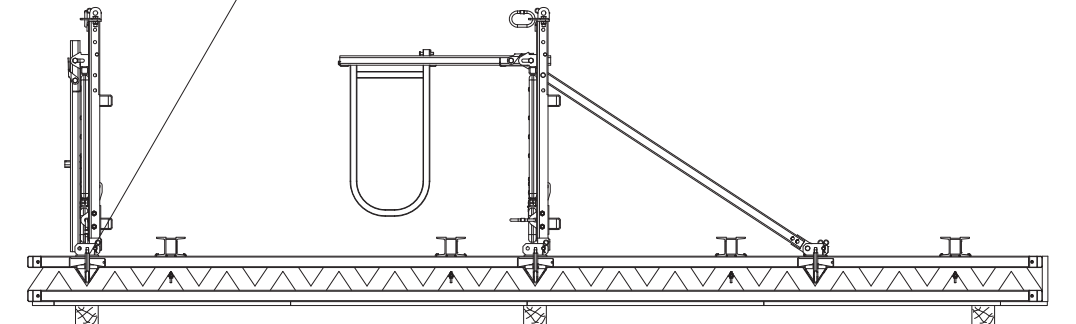

Fig. B2.10
1. Attach next platform to platform connector using pins (30.3) and cotter pins. (Fig. B2.10 + B2.10a)